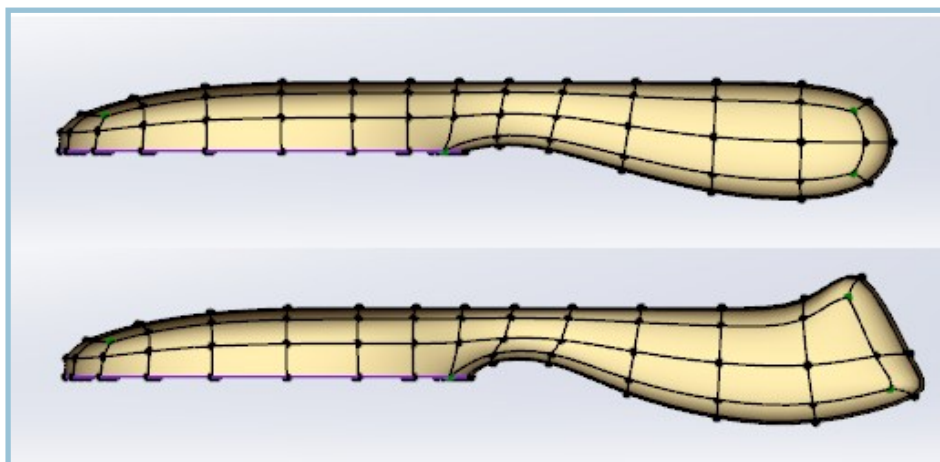

Figure 36– Level of Detail One with the original subdivision, top, and with changes,
2. Select Level of Detail One and make some changes, (Figure 36).